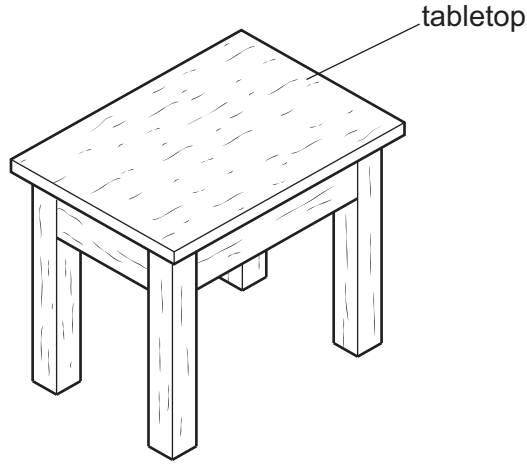

Fig. 1.1
- 1 Fig. 1.1 shows a small table. The tabletop could be made from plywood or chipboard.